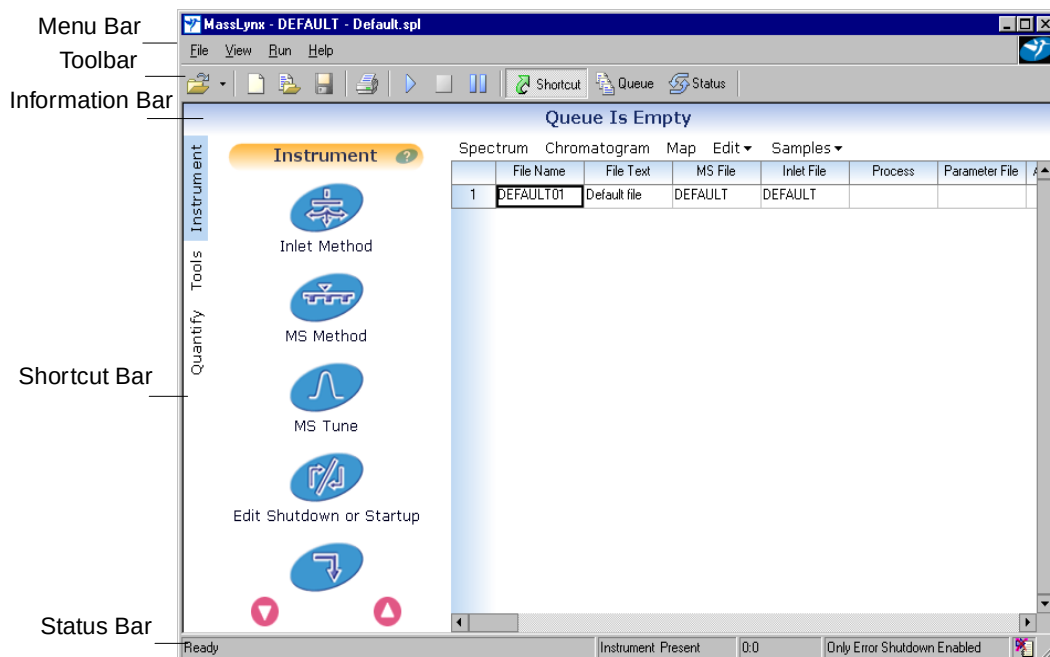
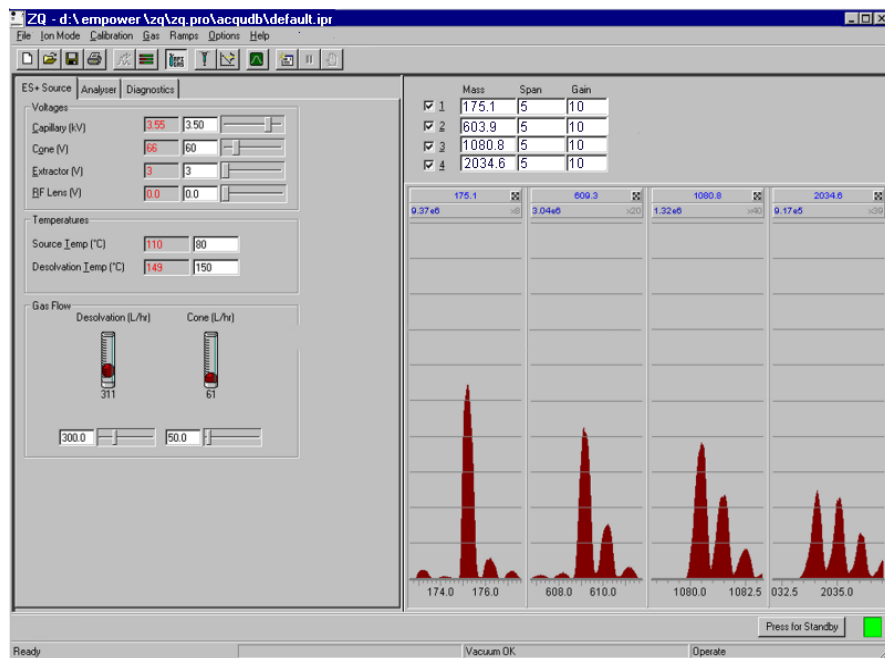

Figure 3-2 MassLynx Main Window
Figure 3-3 Tune Window Displaying the ES+ Source Page
Note: The Login dialog box appears only when you enable MassLynx security. Otherwise, the MassLynx Main window (Figure 3-2) appears after you click the MassLynx V4.0 desktop icon. See the MassLynx Security User's Guide (version 4.0) for details about enabling MassLynx security.
- Click **OK**. The MassLynx Main window appears (Figure 3-2).
- Select **MS Tune** from the Main window (Figure 3-2) shortcut bar to open the Tune window (Figure 3-3).
2. Make sure the instrument is operating, noting whether peak activity appears in the Tune window's Peak Display area (Figure 3-3). If the instrument is not operating (indicated by no peaks), click **Press for Operate**.